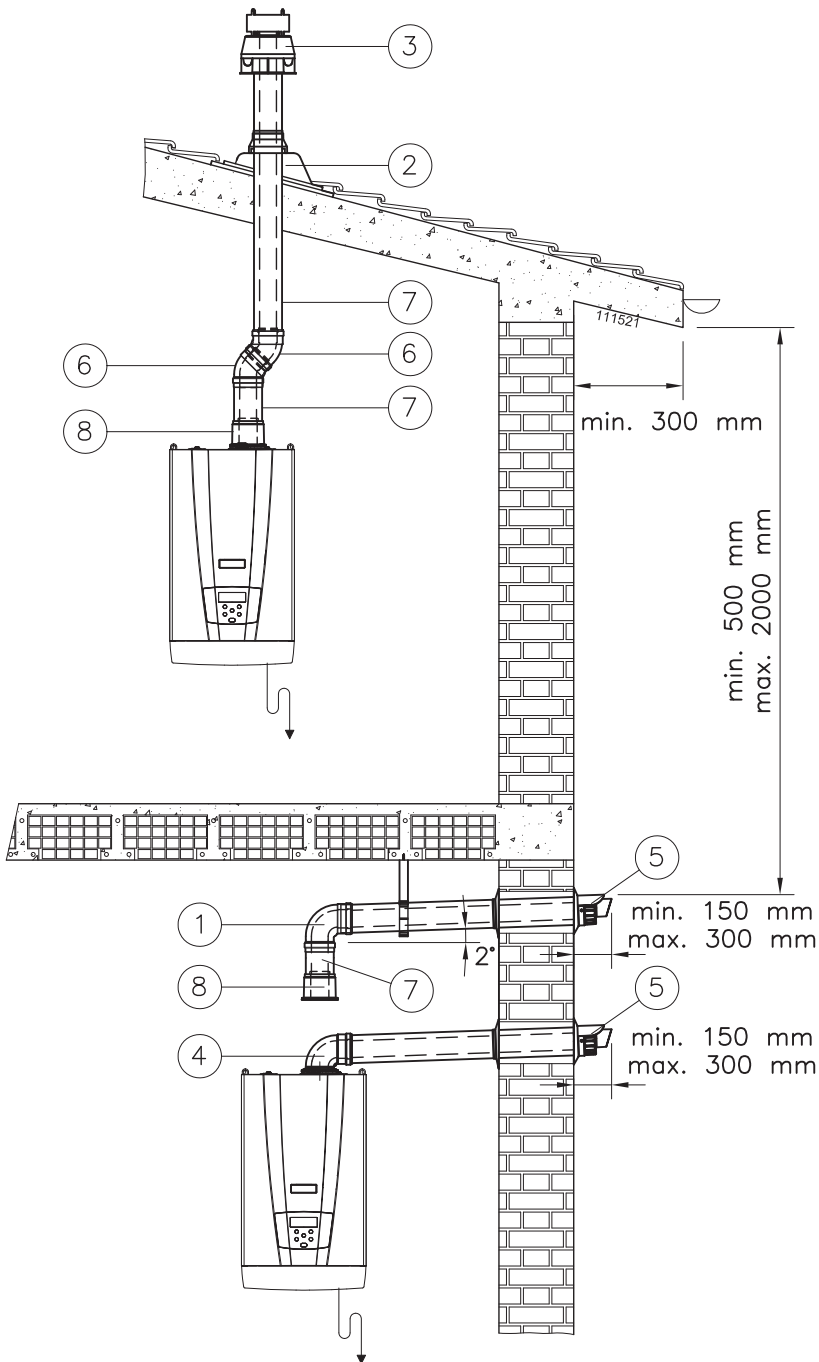

Figure 5-27 – Examples of coaxial pipe installation
**WARNING!** Once these operations have been performed, check that the exhaust/intake terminal is exposed to the outdoors with the tolerances given in figure 5-27
When setting up a coaxial exhaust (see figure 5-27), whether vertical and horizontal, the exhaust pipe must slope upwards so that the condensate flows into the boiler.